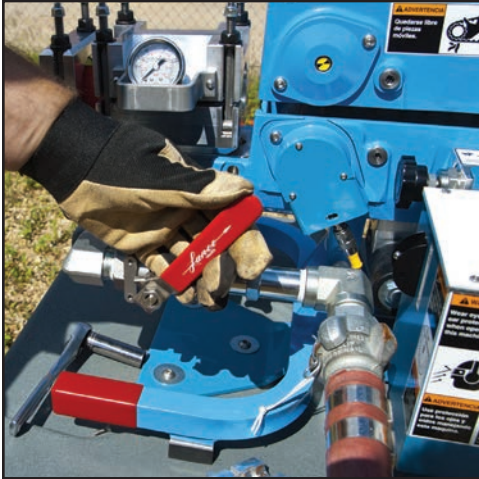

Figure 32. Open Air Control Valve
13. Slowly open Air Control Valve. Pressurize conduit to 80-100 psi (5.5-6.9 bar) (Figure 32).